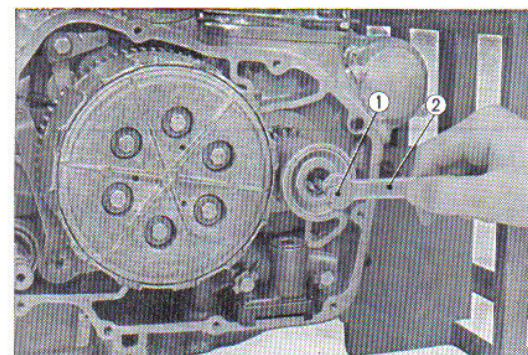

Fig. 3.76 Removing the oil filter cap
2. Remove the circlip and filter cap. (Fig. 3.76)